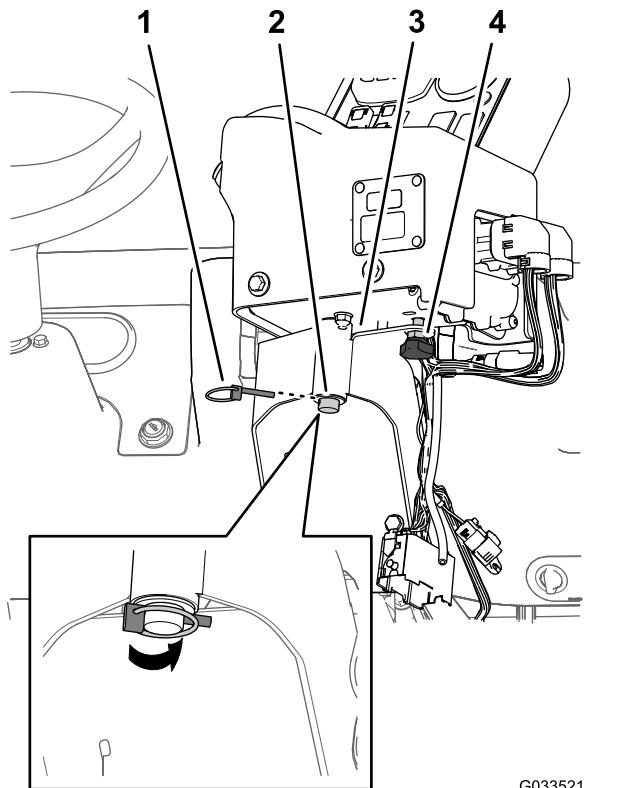

Figure 19
- Install the control console onto the control mounting bracket and secure the control console with the spring-clip pin (Figure 19).
- Install the hand knob and tighten it to prevent the console from rotating during operation (Figure 19).